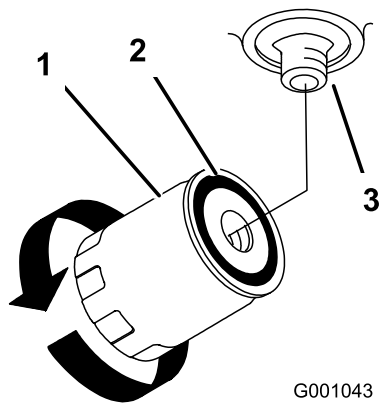

Figure 74
4. Remove the old filter and wipe the filter-adapter gasket surface clean (Figure 74).
7. Turn the oil filter clockwise until the rubber gasket contacts the filter adapter, and tighten the filter an additional 1/2 turn (Figure 74).